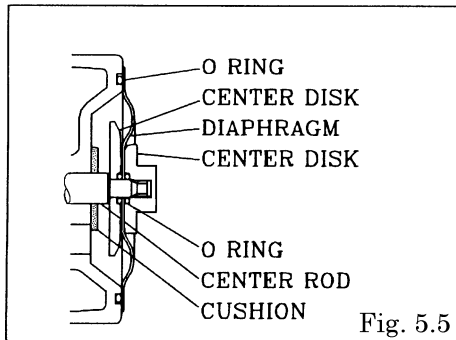

Fig. 5.5
- Install the O-ring(cf. Fig.5.5).